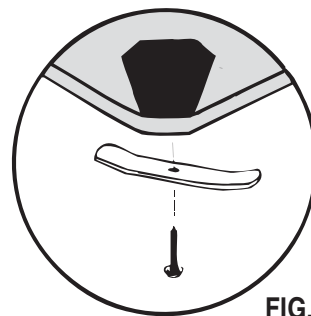

FIG. 3
5. Set sink into the hole. Fasten into place with the locking bars and screws furnished (see Fig. 3). Do not over tighten. Tighten screws until the bars touch the underside of the countertop and will not spin. Wipe off excess caulking.